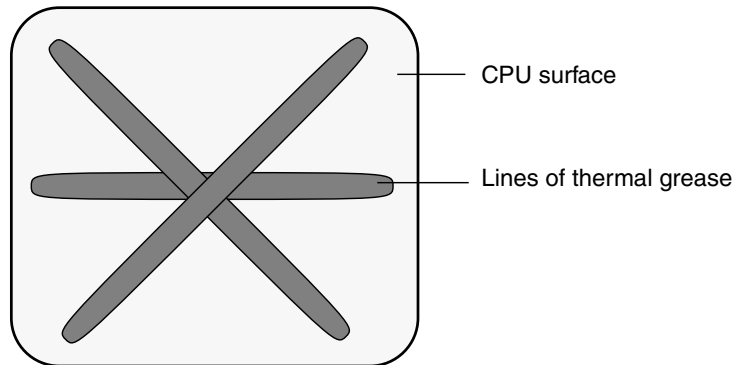

FIGURE 3-58 Required Pattern for Thermal Grease Application
- h. Use one syringe of thermal grease (0.5 g) to carefully apply grease to the top of the CPU in three lines in the pattern shown in FIGURE 3-58.